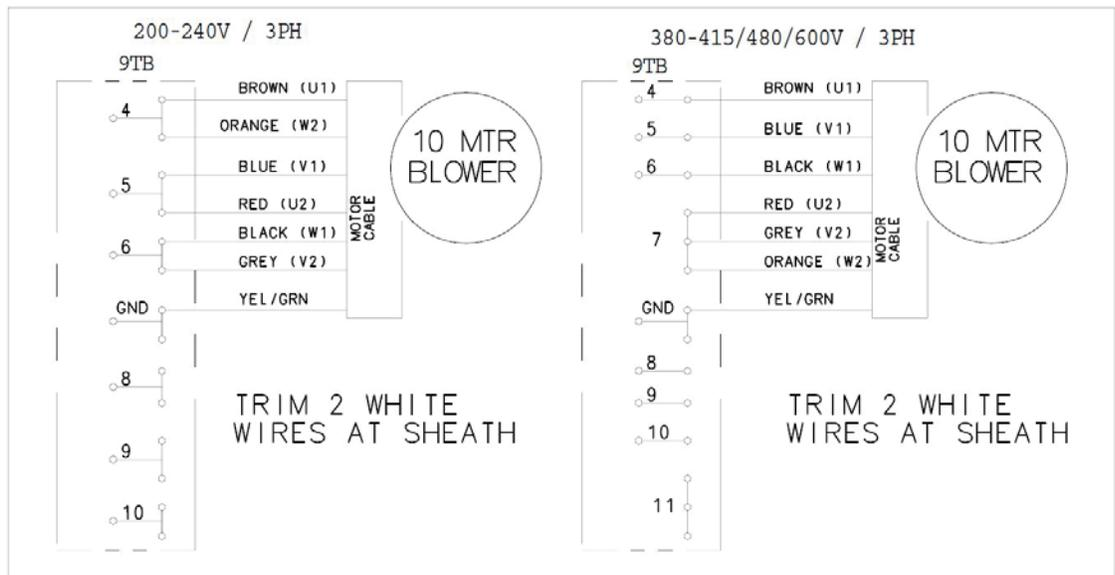

Fig. 27
- Connect blower motor wires to 9TB terminal block in the control box. If wires are stripped, cut end of wire to remove stripped end before making connection. Ensure motor is wired per machine voltage (see data plate for machine voltage) (Fig. 27).